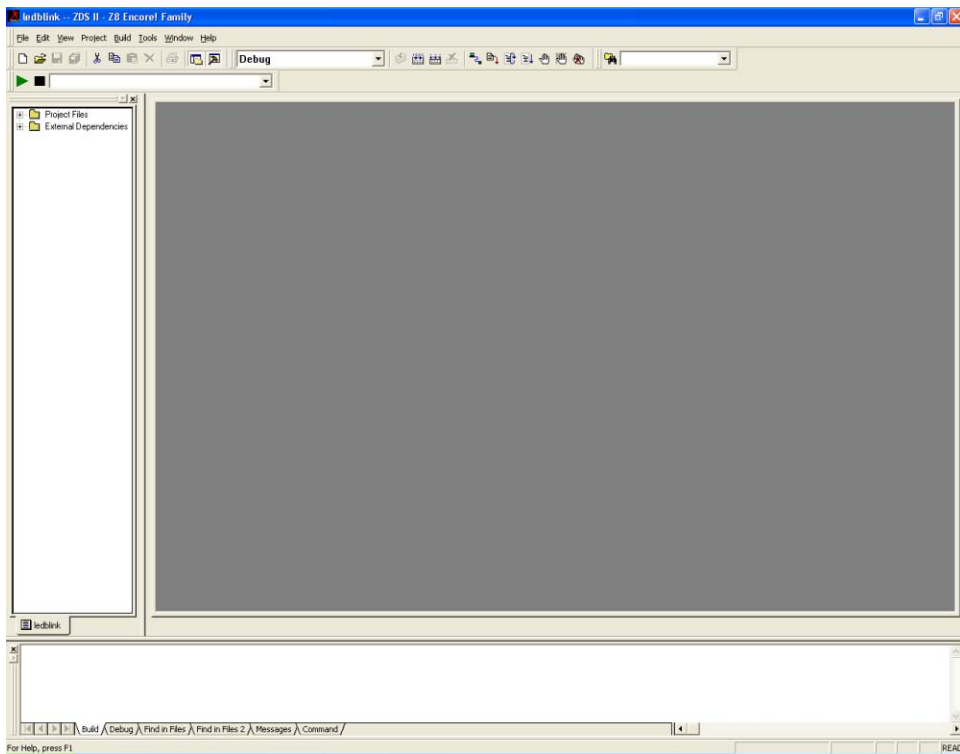

Figure 4. Zilog Developer Studio II Opening Screen
- f. Select the `motordemo.zdsproj` file and click **Open**. The initial ZDSII program screen opens (see Figure 4). To view the project source files, double-click the **Project Files** folder on left side of the IDE interface. Double-click the individual file to open the file in the ZDSII file editor.